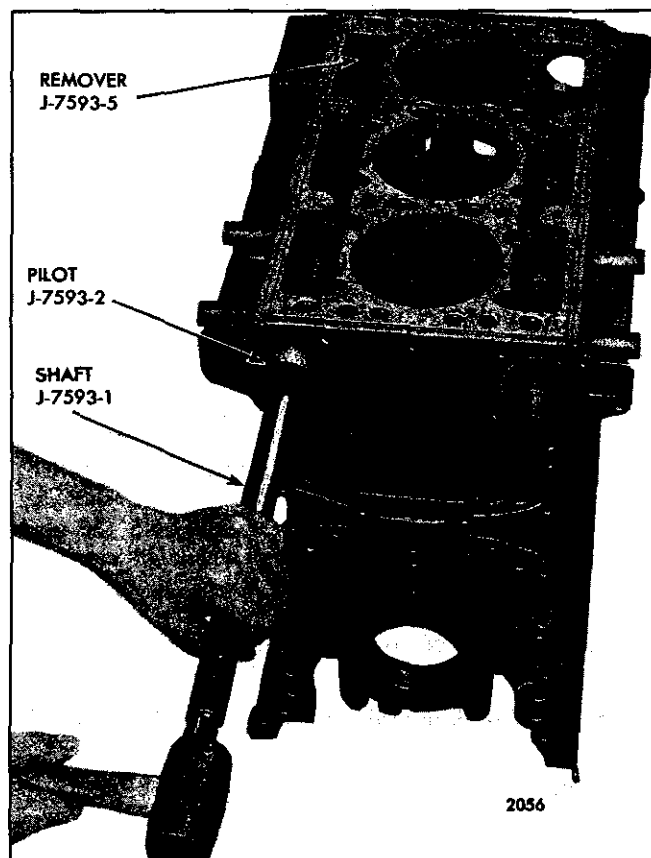
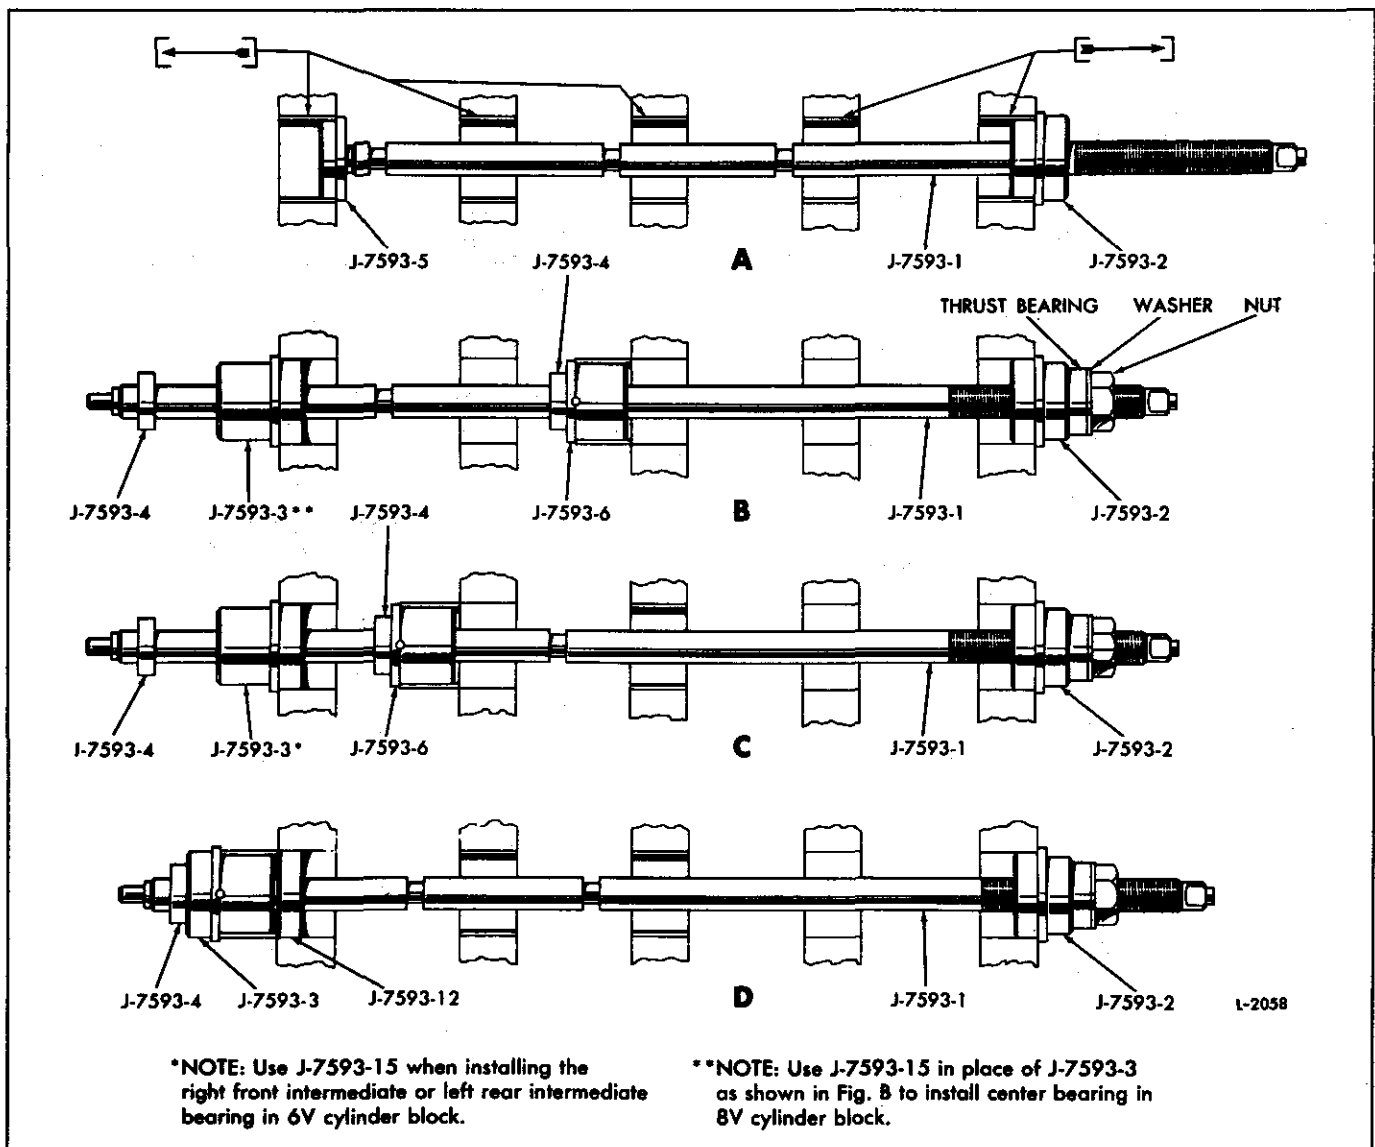
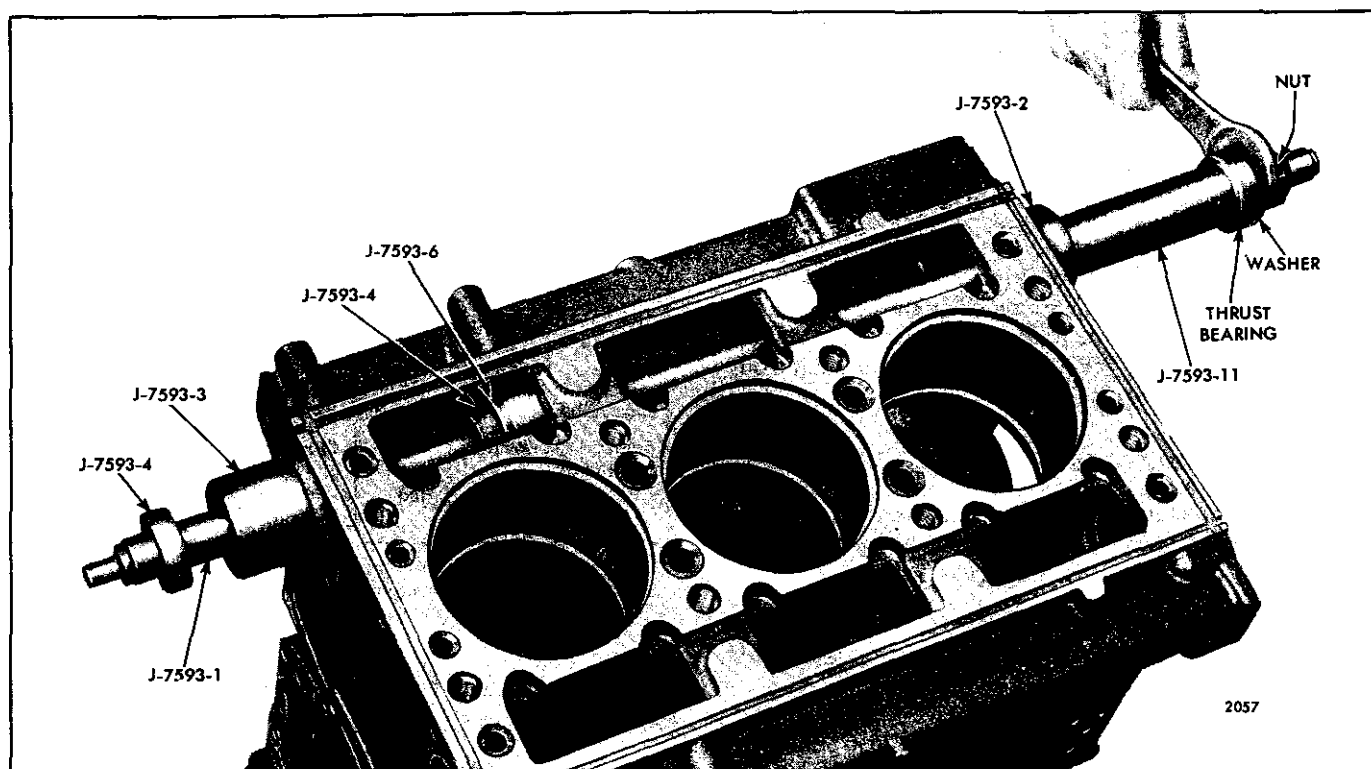

Fig. 5 - Removing End Bearing with Tools J 7593-1, J 7593-2 and J 7593-5
Fig. 6 - Removing and Replacing Camshaft or Balance Shaft Bearings with Tool Set J 7593-03
Fig. 9 – Installing Intermediate Camshaft Bearing Using Tool Set J 7593-03
1. Remove all accessories and assemblies with their attaching parts as is necessary so that tool set J 7593-03 may be used as shown in Fig. 5 and in A of Fig. 6.
1. Insert pilot J 7593-2 in the bore of the block (Fig. 9). Use the small end of the pilot if an end bearing has been installed. Refer to B and C of Fig. 6.
4. Slide installer J 7593-6 on the shaft until the locating pin registers with the notch in the bearing. Then, slide installer J 7593-3 or J 7593-15 on the shaft with the large diameter inserted into the end of the block bore. Refer to C and NOTE of Fig. 6.
- Next, place a spacer (if required), thrust washer, plain washer and hex nut over the threaded end of the puller. The short spacer J 7593-11, shown in Fig. 9, is used on the 3-53 and 6V blocks.
- Insert pilot J 7593-2 in the bore of the block as shown in "D" of Fig. 9. Use the small diameter of the pilot if a bearing has been installed.
- Next, place a spacer (if required), thrust washer, plain washer and hex nut over the threaded end of the shaft as shown in "D" of Fig. 6 and, using a suitable wrench on the hex nut, draw the bearing into place until the shoulder on the installer prevents the shaft from further movement. The bearing is now installed in its correct position.